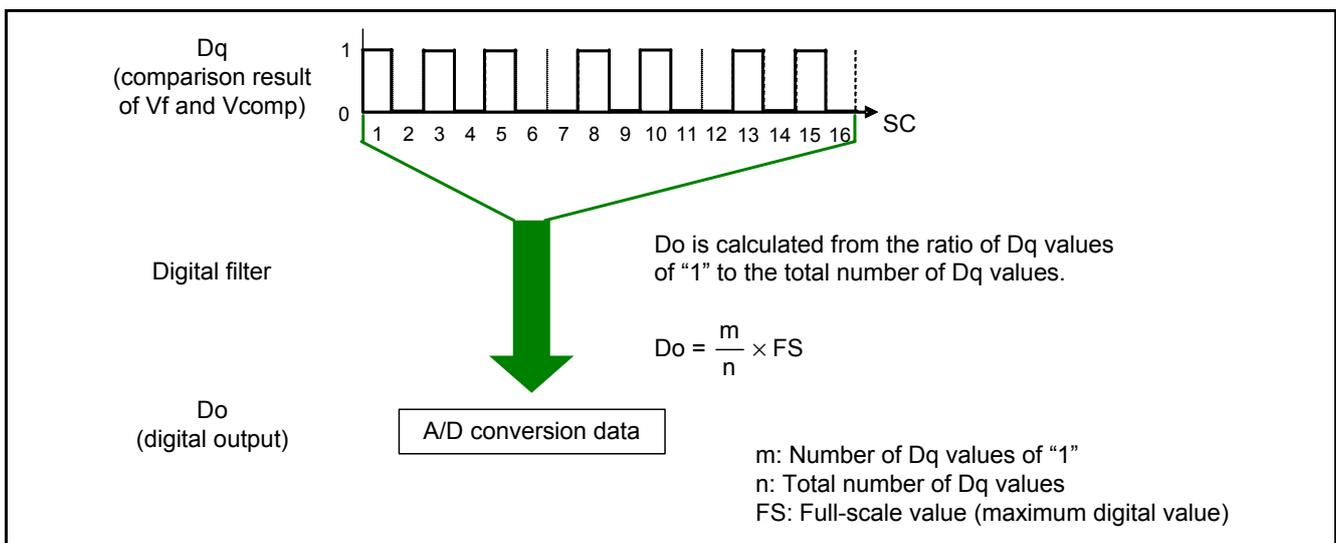

Figure 1.6 Processing by Digital Filter
(2) Decimation Filter (Digital Filter)
Figure 1.6 illustrates the processing performed by the decimation filter. The decimation filter processes the  $n$  units of  $D_q$  that have been obtained by oversampling within one cycle of the sampling frequency. This processing involves averaging the data stream consisting of  $n$  bits and multiplying the result by the A/D converter's maximum digital value (FS) to obtain  $D_o$ . The decimation filter outputs this result once each sampling period.